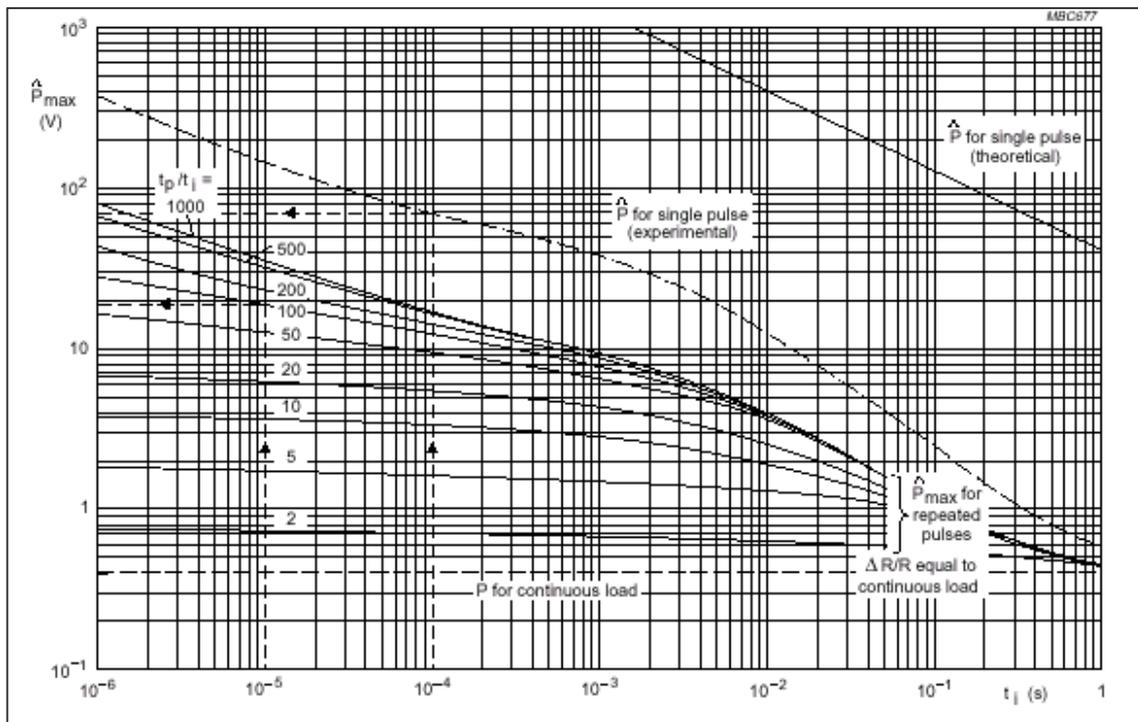
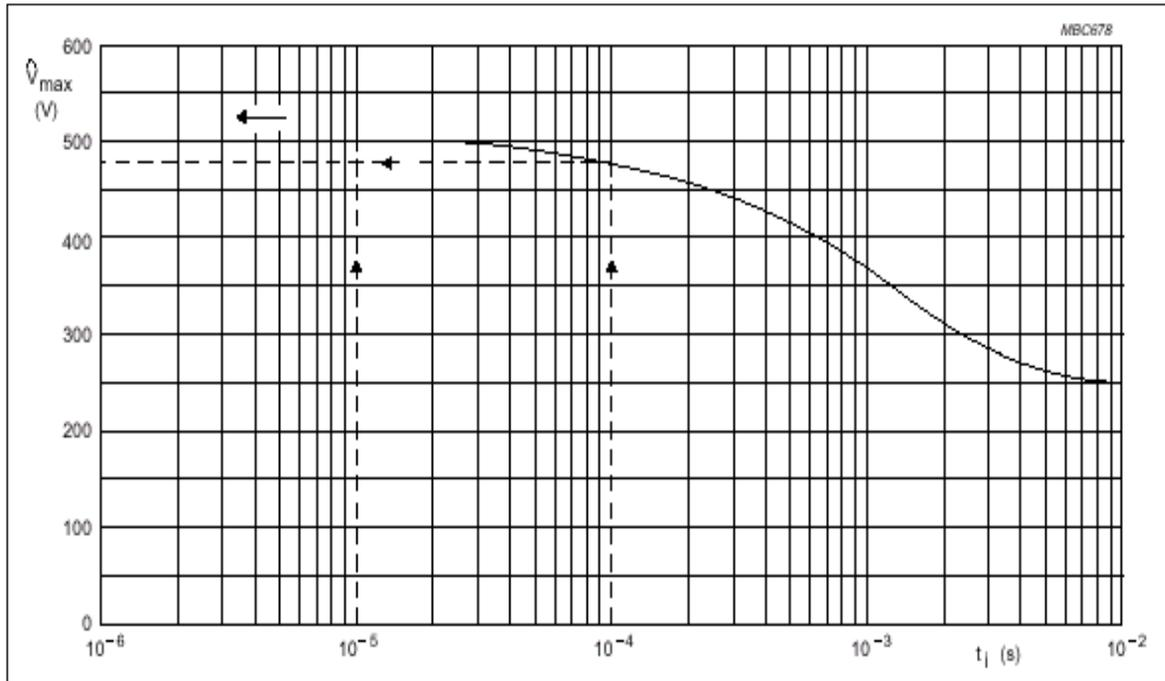

Fig. 6 Maximum permissible peak pulse(P_{max}) as a function of pulse duration (t_j) for a typical resistor.
Fig. 7 Max. permissible peak pulse voltage (V_{max}) as a function of pulse duration (t_l) for a typical resistors
This theoretical maximum can be expressed in terms of peak pulse power, P , and pulse duration, t ; the straight line in Fig.6 is a typical example for a film resistor. In practice, owing to variations in the resistance film, substrate, or spiralling, resistors fail at loads less than this theoretical maximum; the dashed line in Fig.6 shows the observed maximum for a resistor under single-pulse loading.
Using a computer program which takes account of all factors affecting behaviour under pulse loads, curves similar to those of Fig.6 are being produced for all resistor ranges.
Measurements have shown that the calculated value is accurate to within 10% of the true value. However, maximum peak pulses as indicated in Fig.7, should not be exceeded.
Definition of symbols used in Figs 6, 7, 8 and 9
P_{max} = maximum permissible peak pulse power (Fig.6)
V_{max} = maximum permissible peak pulse voltage (Fig.7)
The graphs in Figs 6 and 7 may be used to determine the maximum pulse loading for a resistor. The calculations assume:
$\frac{V_i^2}{R}$ must be lower than the value of P_{\max} given by the solid lines of Fig.6 for the
- V_i must be lower than the value of V_{\max} given in Fig.7 for the applicable value of t_i
$\frac{V_i^2}{R}$ must be lower than the P_{\max} given by the dashed line of Fig.6 for the
- V_i must be lower than the value of V_{\max} given in Fig.7 for the applicable value of t_i .
Fig. 6 gives $P_{\max} = 19$ W and Fig. 7 gives $V_{\max} = 500$ V. As the operating conditions $P = 16$ W and $V_i = 40$ V are lower than these limiting values, this resistor can be safely used.
The dashed curve of Fig.6 shows that at $t_i = 10^{-4}$ s, the permissible $P_{\max} = 70 \text{ W}$ and Fig.7 shows a permissible V_{\max} of 480 V, so again this resistor may be used.